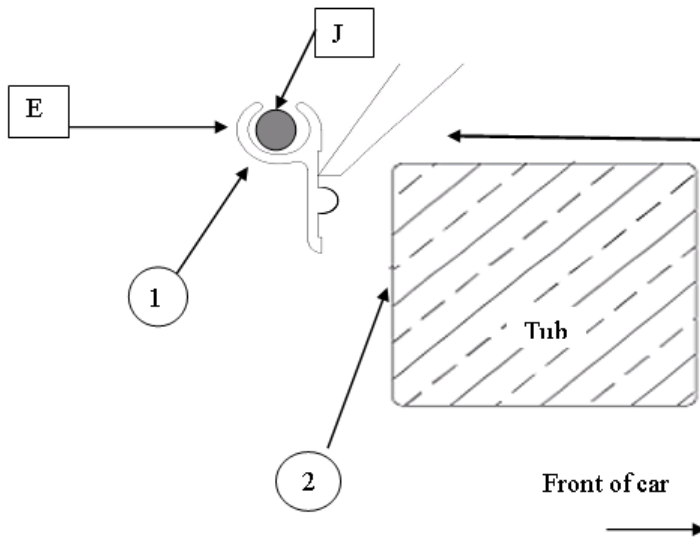

Figure 1: Placement of aluminium rope track. Ensure channel is above the tub's top edge.
2. Rest the aluminium rope track on the side rails, and push forward. **Figure 1** to the vertical face of the tub.